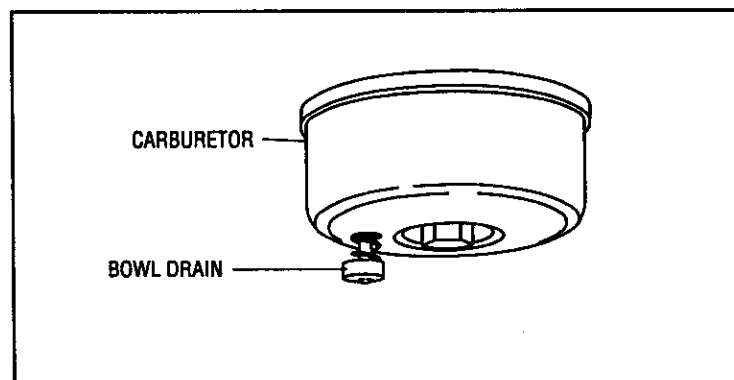

Figure 7
- ① **CARBURETOR** (see Figure 7):